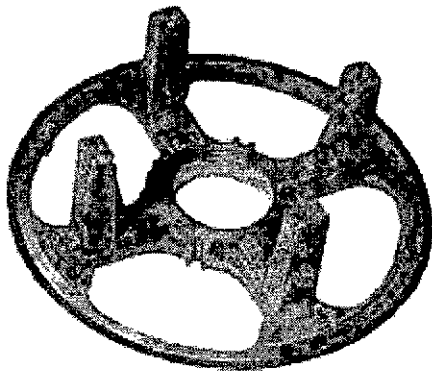

Figure 6-48
4. Inspect the end bracket for stripped threads, cracks, and burred or rough mating surfaces. Inspect the bearing bore for burrs or wear. If the bracket shows excessive bearing bore wear, it should be repaired or replaced. (Figure 6-48.)